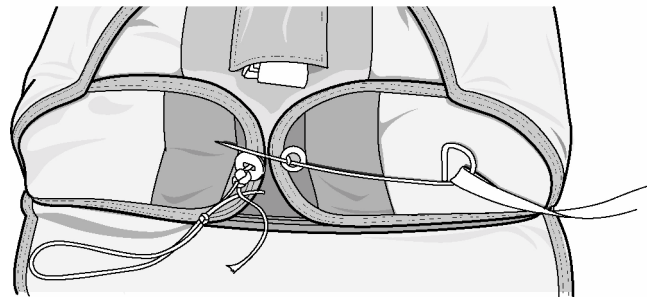

Figure 7. Securing Locking Loops on Flaps 2 and 3
h. Close bottom left and right flaps by routing temporary locking loop (550 cord with a 3/4-in. bowline loop tied in one end) down through bowline loop and route pull up cord through right flap grommet pull up through grommet and secure with cypress locking pin. Remove pull-up cord from bowline loop at right flap (Figure 7).
a. Close bottom left and right flaps by routing temporary locking loop (550 lbs. with a 3/4-in. overhand loop tied in one end) through left flap grommet. Route loop through right flap grommet and secure with CYPRES locking pin (Figure 7).